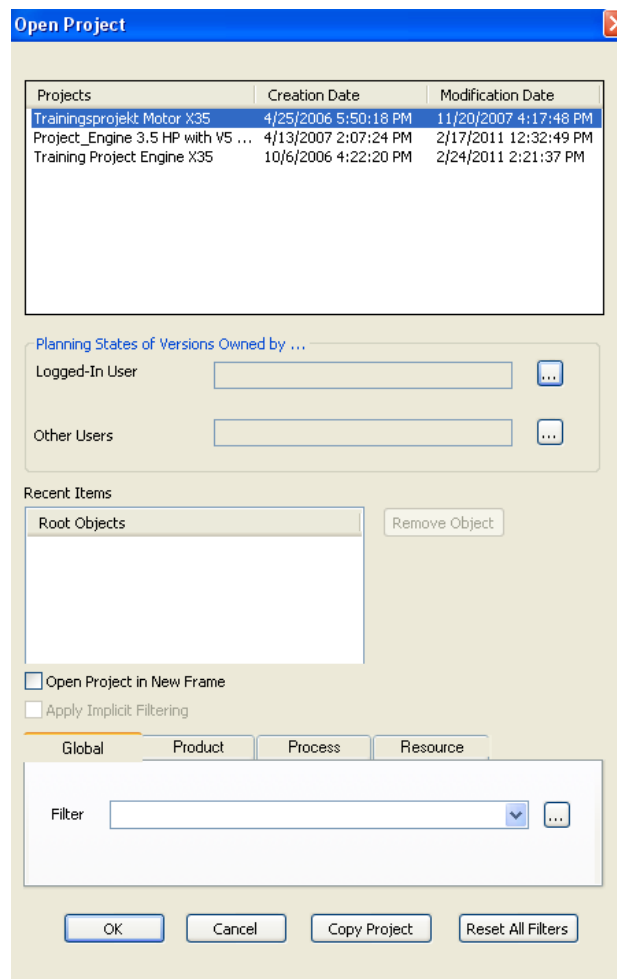

Figure 19: Opening a Project
- 3) Select the required **Filter** tab. Please refer to the Figure 19.
- 6) Click  symbol in **Filter** drop-down list. Please refer to the Figure 19. The **Edit Filter** dialog appears.